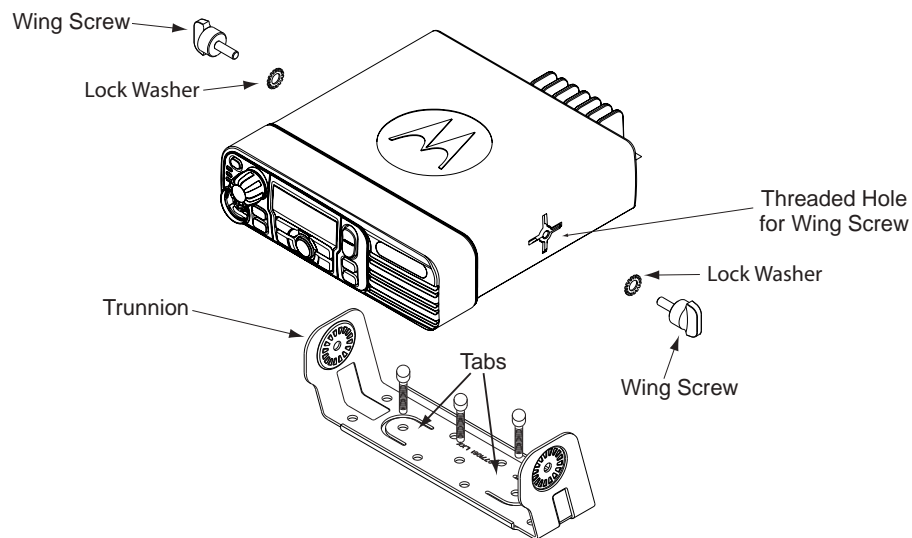
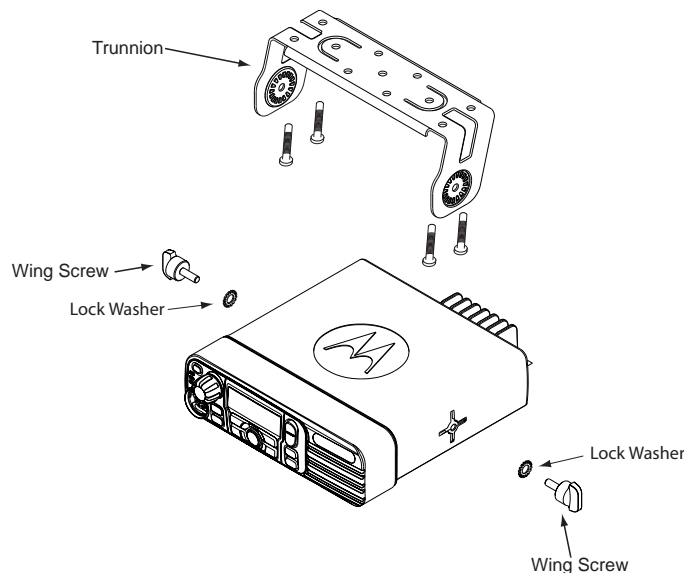

Figure 2-6 Transmission Hump Trunnion Mounting
Figure 2-7 Below Dash Trunnion Mounting
1. Select the location to mount your radio on the transmission hump (see Figure 2-6) or under the dash (see Figure 2-7). When mounting the trunnion on the transmission hump take care the transmission housing is not affected.
4. Secure the trunnion mounting bracket with the self-drilling screws provided. The number of screws used will depend on how the radio is mounted (see Figure 2-6 and Figure 2-7).
5. Position the radio to align the trunnion with the trunnion mounting features on the radio (see Figure 2-6). Secure the radio with the two wing screws and lock washers (position the flat side of the washer to the thumbscrew and the washer sharp side to the trunnion) provided.